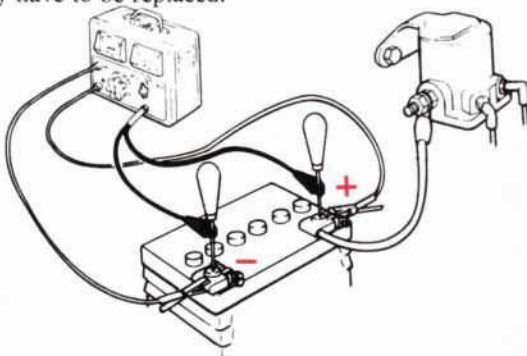

Figure 8—Battery Capacity Test Connections
**Capacity Test**—Connect the appropriate leads of a Battery-Starter tester with a carbon pile resistor and a voltmeter to the battery posts (Fig. 8). Be sure the voltmeter clips are connected DIRECTLY to the battery posts, and not to the battery tester clips.